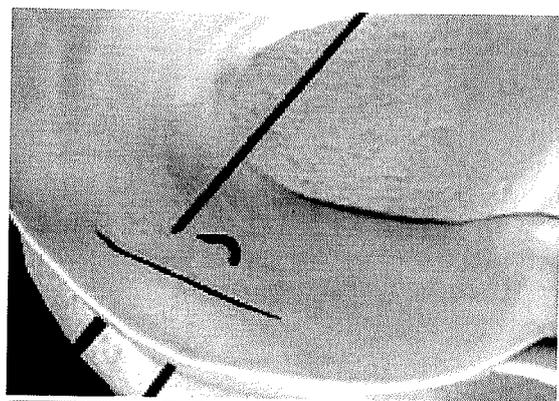

Figure 11
- ∂ Remove the first needle with the loop from the joint (Figure 11).